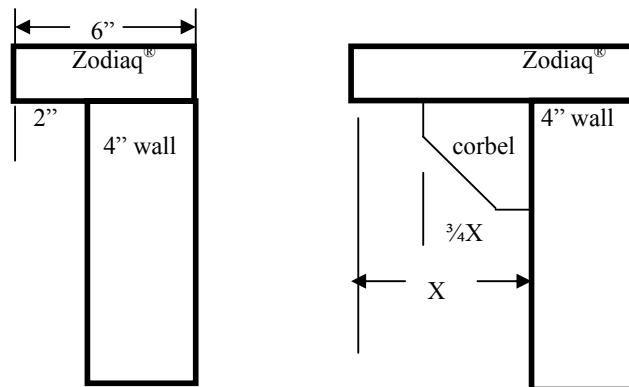

Figure 1
- Overhangs <1/3 the depth of the top. [i.e., support wall is 4" (10 cm), total top is 6" (15 cm), overhang 2" (5 cm)] no additional support required. (Figure 1)
- For all other half wall overhangs, corbels are required to support the overhang where the bracket depth is 3/4 of the overhang depth and spacing is a maximum of 36 inches. Corbels should be placed at wall studs. (Figure 1)